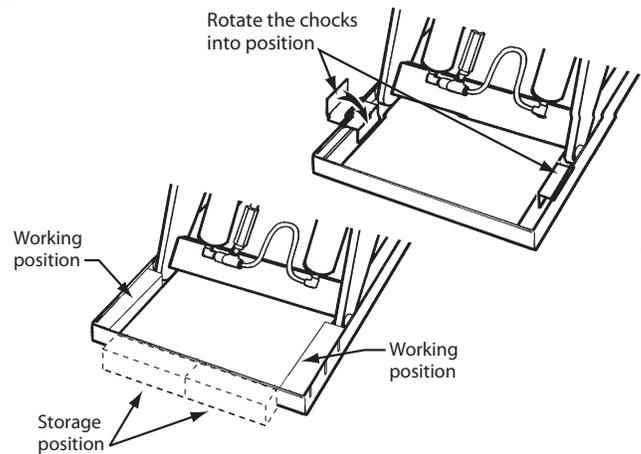

Figure 1 – Safe Servicing of Lift
3. Remove the maintenance device(s) from its/their storage location and place it/them into the engaged position as shown in Figure 1. (Note: further information may be useful here to provide additional instructions as to the location and method of storage and engaged positions).
Raise and chock the lift, as shown in Figure 1.
When adjusting the flow control, always raise the lift table and insert the maintenance chocks, as shown in Figure 1. Do not try to adjust the flow control while pressing the “down” button. If you try this, the lift table may drop suddenly, and you may be hurt.
- **Raise the lift table and insert the maintenance chocks**, as shown in Figure 1.
- Every time you want to change the adjustment again, raise the table again and insert the maintenance chocks as shown in Figure 1.